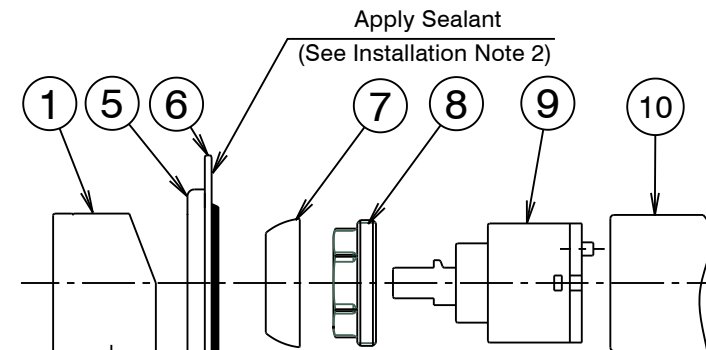
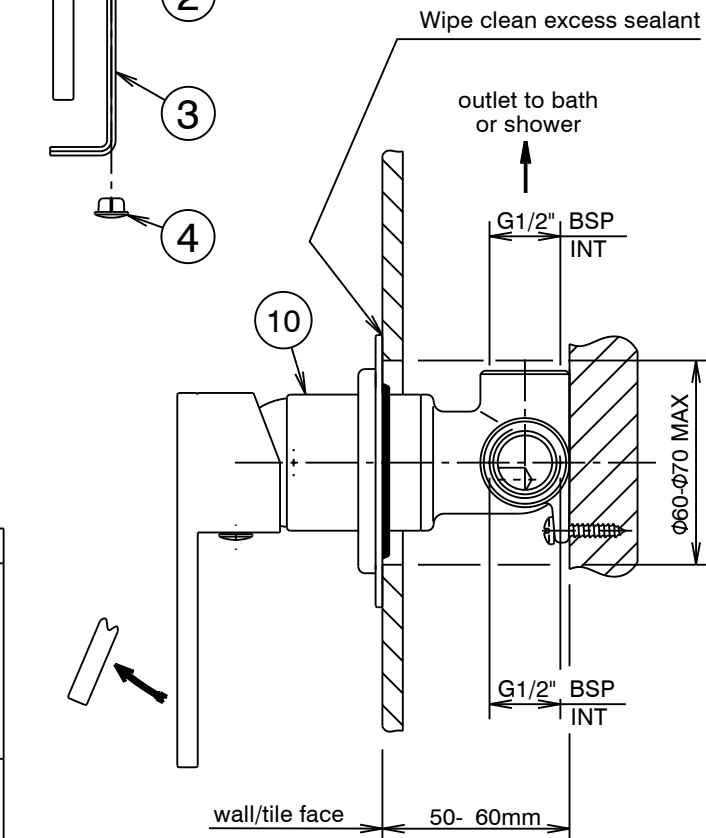

Fig. 2
Fig. 1
Installation (Fig. 1 & 2)
- * Mixer body (10) must be installed square to wall/tile face, to ensure cover plate (6) sits flush.
- 2) Apply a suitable clear sealant to the back face of the cover plate (6) to prevent water from entering the wall cavity, leaving an unsealed section at the bottom for drainage. (See Fig. 2). Carefully slide the cover plate (6) together with trim cover (5) onto the mixer body (10), push firmly on the trim cover until cover plate (6) contacts the wall/tile face & sealant has formed a waterproof joint. Wipe clean any excess sealant from the chrome surfaces & the wall/tile face (See Fig. 1).
- 3) Fit handle (1) as shown, taking care that it is pushed fully down, then tighten grub screw (2) using 2.5mm allen key (3). Insert plug (4) taking care not to damage the decorative finish.
Replacing Cartridge (See Fig. 2)